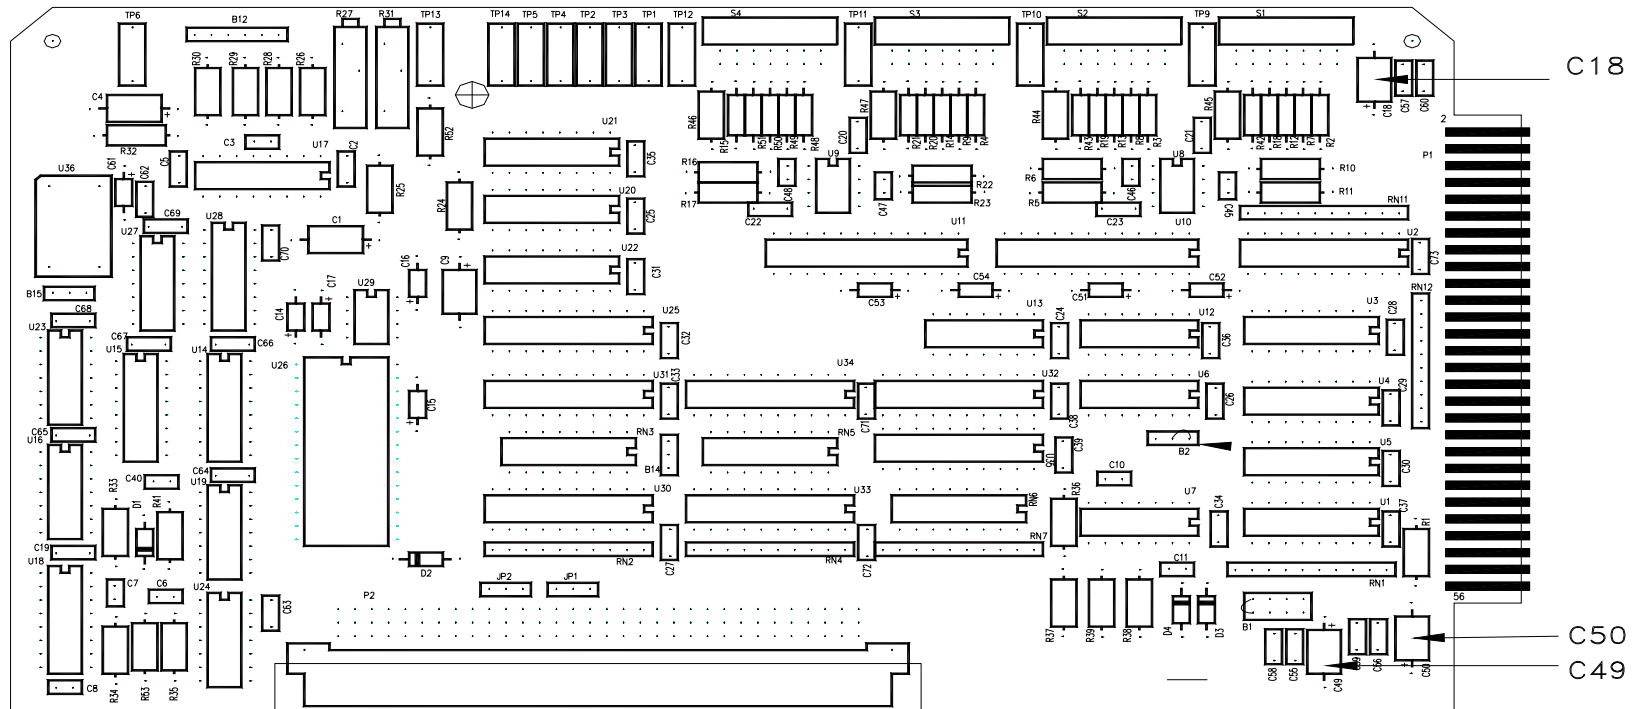
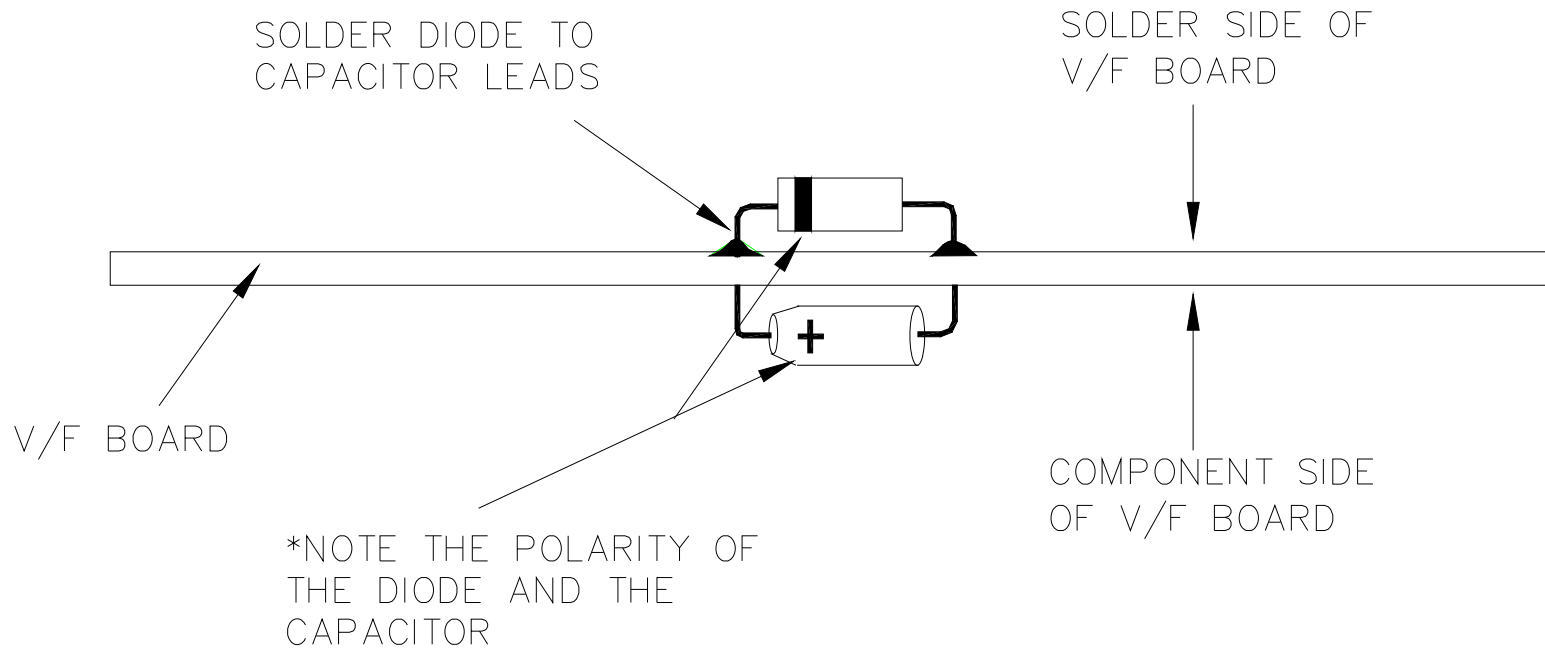

Figure 2
Figure 3
7. Locate C18 (see fig. 2) on the V/F board and note the Polarity of the capacitor. Solder the 5V Suppression Diode (DD000069 1N6373) in parallel with C18 on the solder side of the board. Make sure to note the polarity of the Diode, the bar side of the diode should be connected to the +Positive side of the capacitor (see fig 3).
9. Locate C50 (see fig 2) and repeat steps 7 and 8 with the 15V suppression diode (DD000035 1N6377).
10. Locate C49 (see fig 2) and repeat steps 7 and 8 with the 15V suppression diode (DD000035 1N6377).